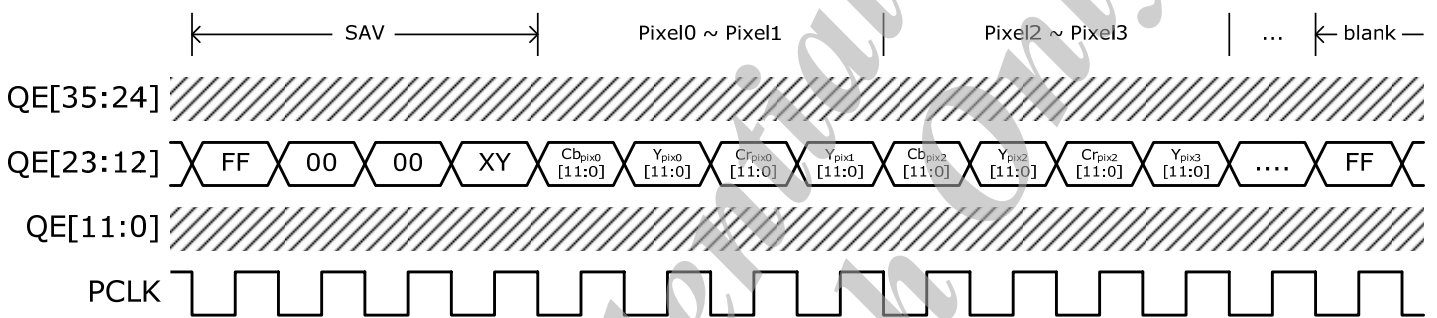
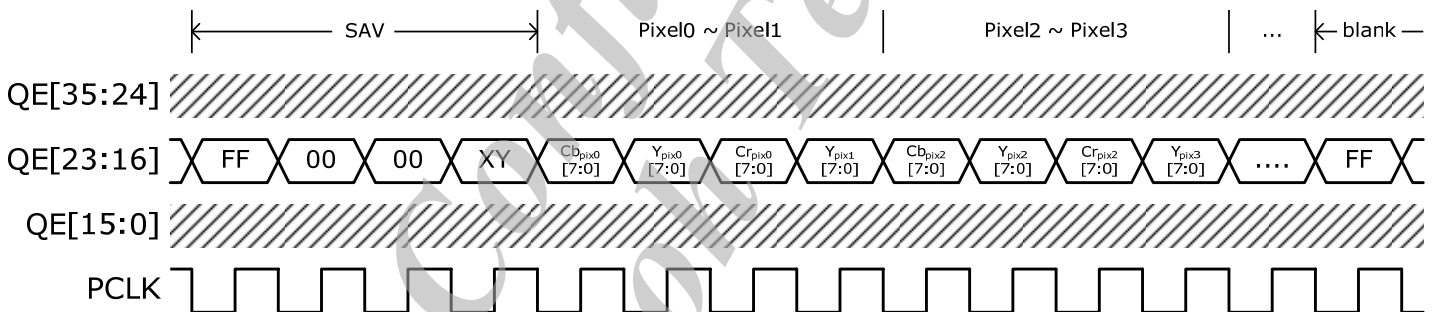

Figure 10. 12-bit CCIR-656
Figure 11. 8-bit CCIR-656
by half compared from the previous YCbCr 4:2:2 formats, to either 8-bit, 10-bit or 12-bit. To compensate for the halving of data bus, PCLK frequency is doubled. With the double-rate output clock, luminance channel (Y) and chroma channels (Cb or Cr) are alternated. The syncs signals are embedded in the Y-channel. Normally this format is used only for 480i, 480p, 576i and 576p. The CAT6023 supports CCIR-656 format of up to 720p or 1080i, with the doubled-rate clock running at 148.5MHz. CCIR-656 format supports embedded syncs only. Figure 10 and Figure 11 give examples of 12-bit and 8-bit CCIR-656 respectively. Note that while "embedded syncs" implies that neither DE nor H/VSYNC are required, the CAT6023 optionally output these signals via proper register setting to ease the design for some backend processors.